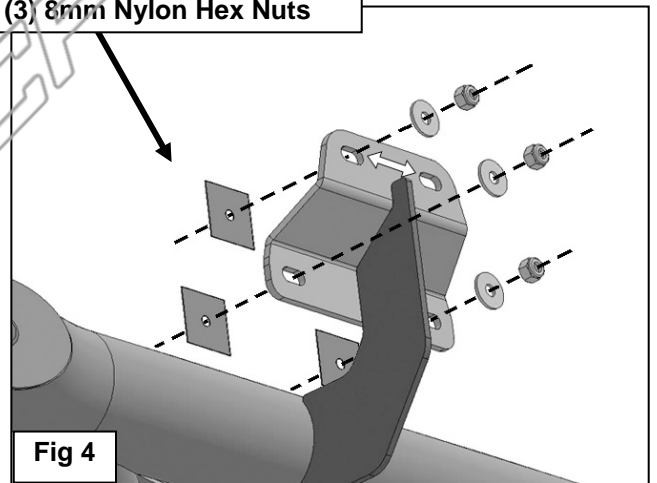

Fig 4
3. Select the passenger/right HD Side Step Assembly. With assistance, attach the HD Side Step to the (9) factory studs with (9) 8mm Flat Washers and (9) 8mm Nylon Hex Nuts, **(Figures 4 & 5)**. Snug but do not fully tighten the hardware.